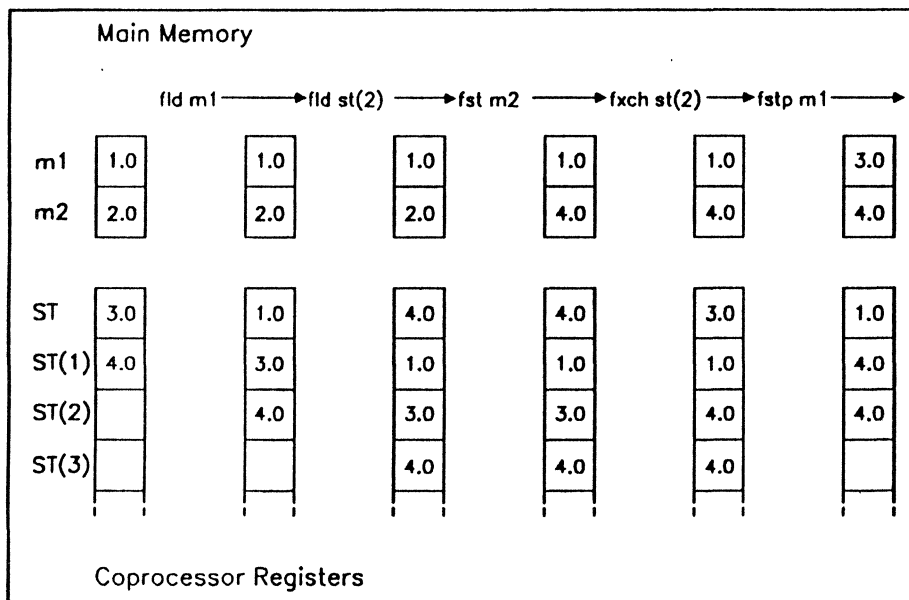

Figure 21-7. Register Stack Using Packed BCD
With the assumption that registers ST and ST(1) were previously initialized to 3.0 and 4.0, the status of the register stack is shown in Figure 21-7.